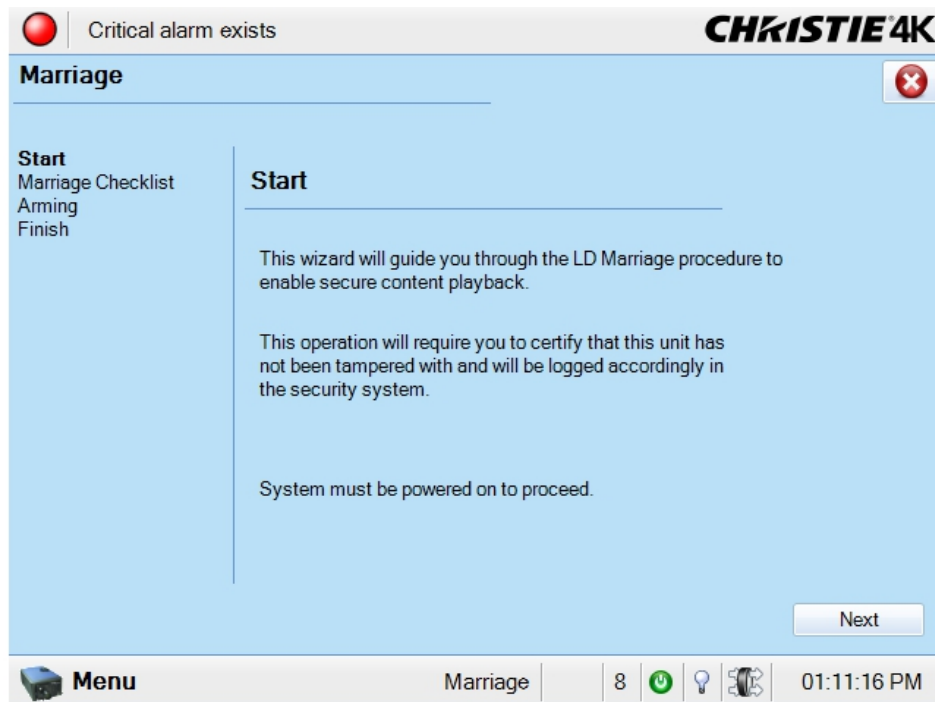

Figure 3-57 Service Setup: Marriage Start Window
Marriage is the process of engaging the DCI physical interlocks that enable the display of secured materials. The **Marriage** window begins a series of panels that guides you through the process required to engage the projector's married condition. The left column of the **Marriage** window shows which state you're currently at in the marriage process. (Figure 3-57) Click the **Next/Prev** buttons to navigate the series of steps. **NOTE: Only Service Technicians can engage the projector's marriage.**
1. Ensure the system is in full power mode to proceed, i.e. Power is ON. Click the **Next** button to proceed to the **Marriage Checklist** window. (Figure 3-57).